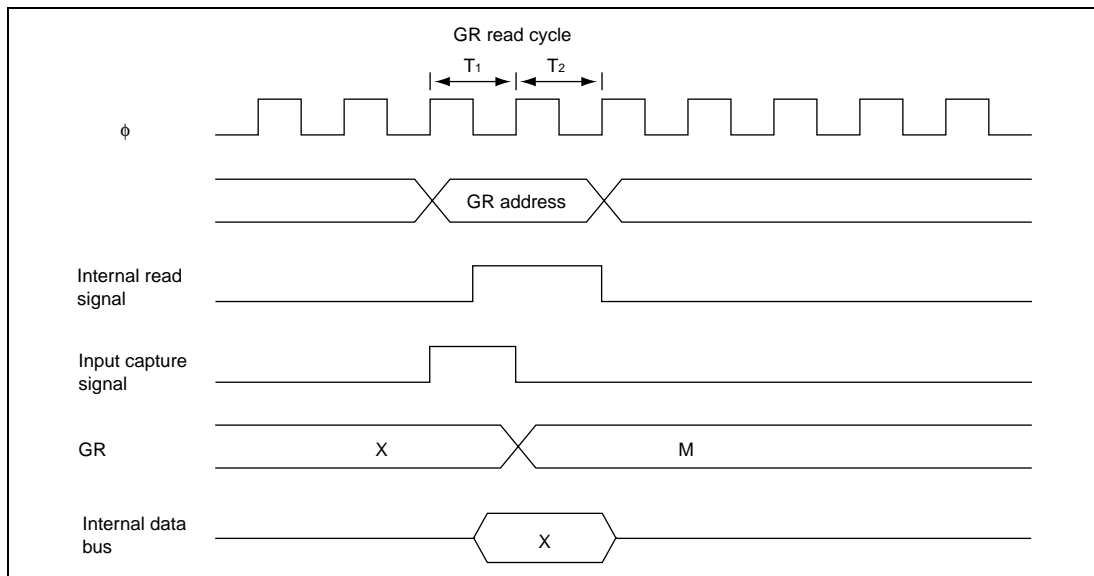

Figure 13.56 Contention between GR Read and Input Capture
5. Contention between GR Read and Input Capture: If an input capture signal is generated in the T_1 state of a GR read cycle, the data that is read will be transferred before input capture transfer. Figure 13.56 shows the timing in this case.